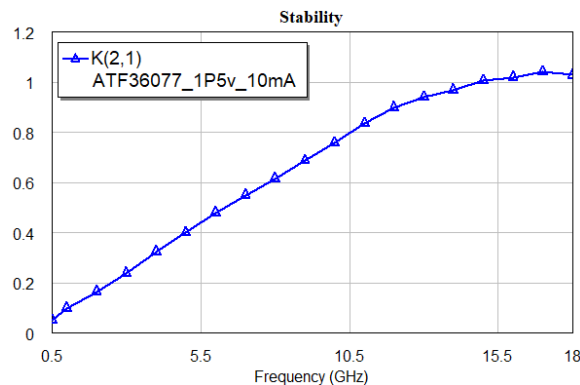

Fig. 1 Stability factor of the ATF-36077 transistor.
- Perform an analysis the results of which are to be shown in Fig. 1.